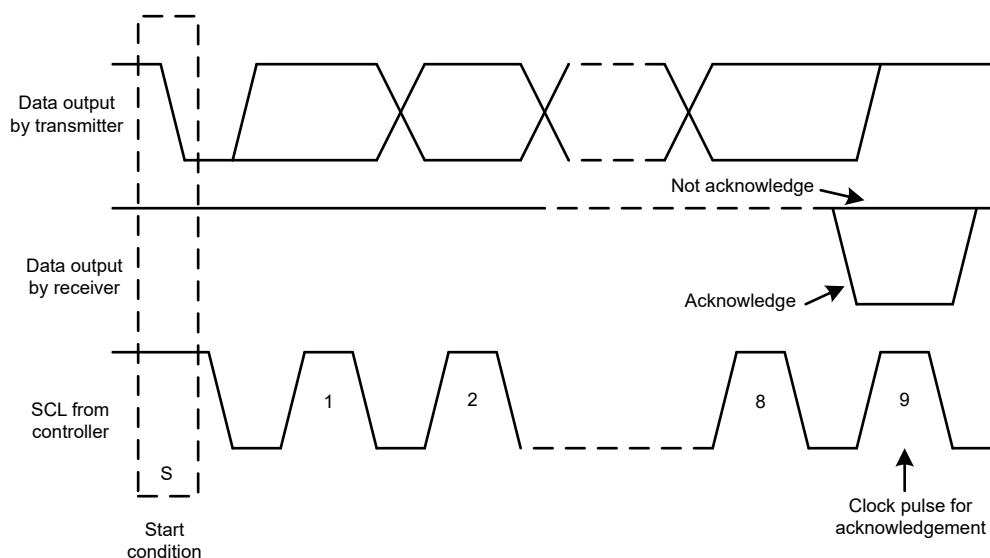
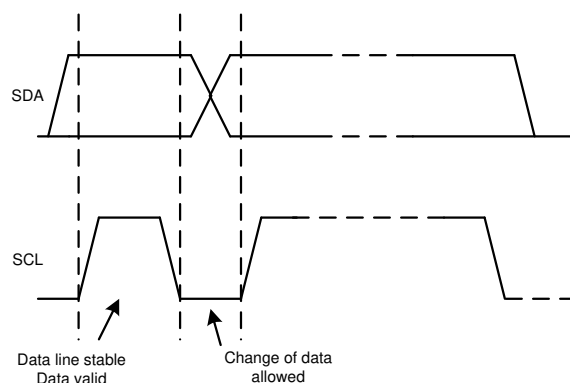

Figure 7-3. Acknowledge and Not Acknowledge on the I²C Bus
Figure 7-5. Bit Transfer on the I²C Bus
Other than specific timing signals, the I²C interface works with serial bytes. At the end of each byte, a ninth clock cycle generates and detects an acknowledge signal. An acknowledge is when the SDA line is pulled low during the high period of the ninth clock cycle. Figure 7-3 shows that a not-acknowledge is when the SDA line is left high during the high period of the ninth clock cycle.
2. The controller then generates the SCL pulses, and transmits the 7-bit address and the read/write direction bit (R/\bar{W}) on the SDA line. During all transmissions, the controller makes sure that data are valid. Figure 7-5 shows that a valid data condition requires the SDA line to be stable during the entire high period of the clock pulse. All devices recognize the address sent by the controller and compare the address to the respective internal fixed address. Only the target device with a matching address generates an acknowledge by pulling the SDA line low during the entire high period of the 9th SCL cycle (see Figure 7-3). When the controller detects this acknowledge, the communication link with a target has been established.